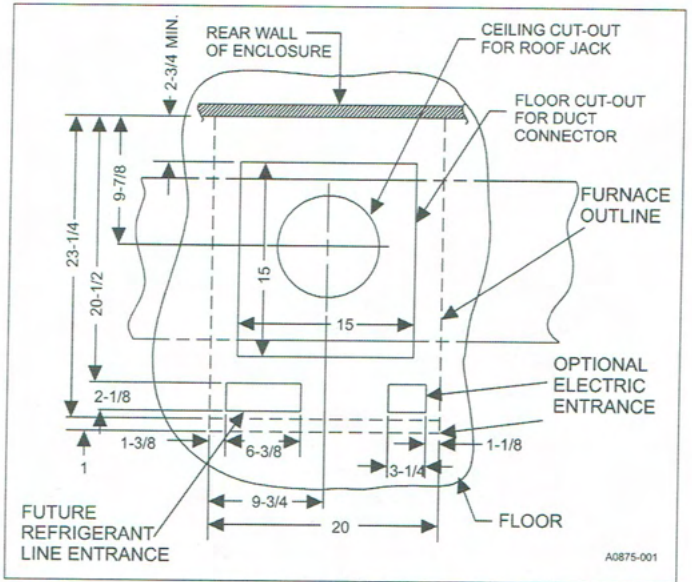

FIGURE 6: Recommended Floor Cut-Out (7900 Series)
1. Make floor cut out as shown in Figure 6.